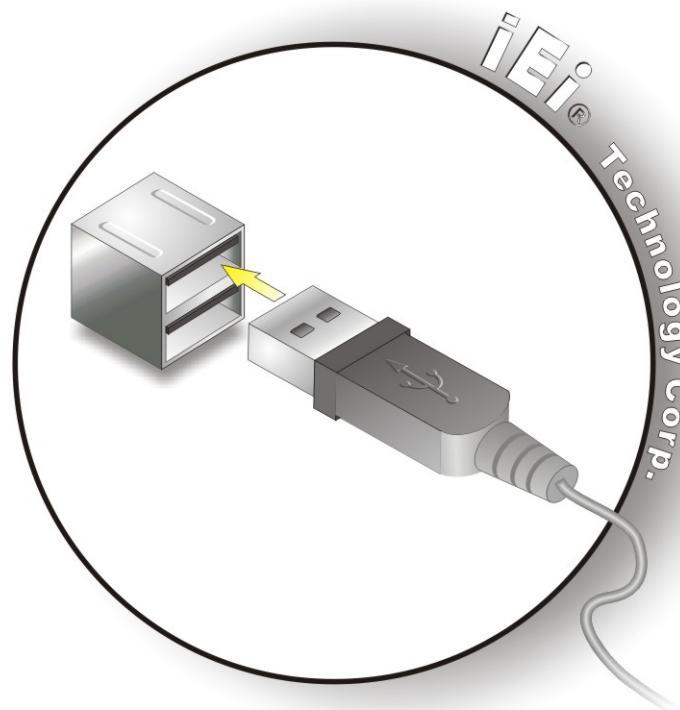

Figure 4-12: USB Connector
**Step 2:** Insert a USB Series "A" plug. Insert the USB Series "A" plug of a device into the USB Series "A" receptacle on the external peripheral interface. See Figure 4-12.